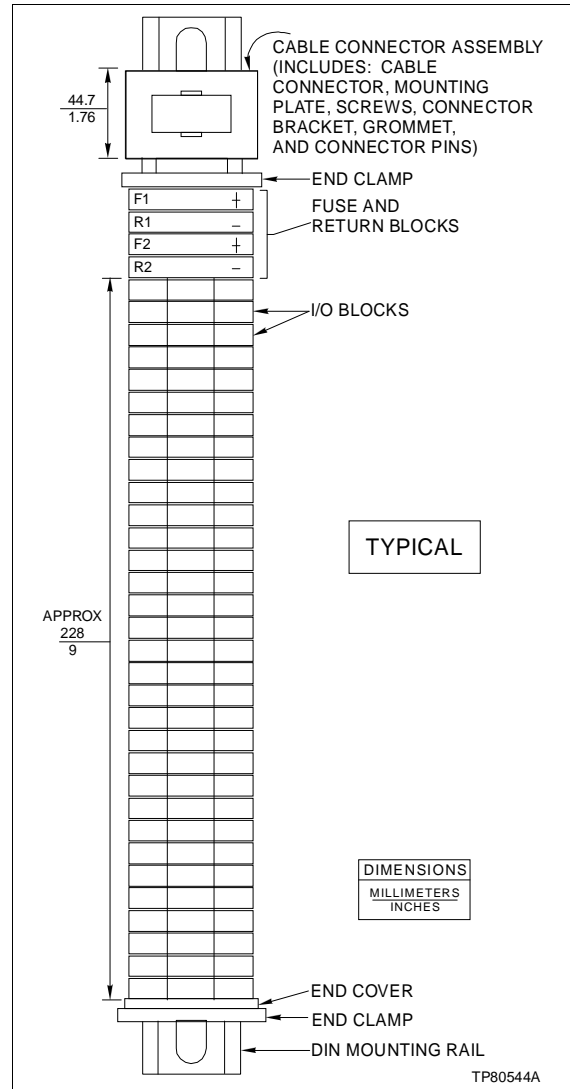

Figure 4-2. Rail Termination System Components
8. Loosen the single screw in the end clamp used to secure the terminal block assemblies to the rail. There is an end clamp at each end of the rail assembly (Figure 4-2). Remove the end clamp closest to the terminal block to be replaced.